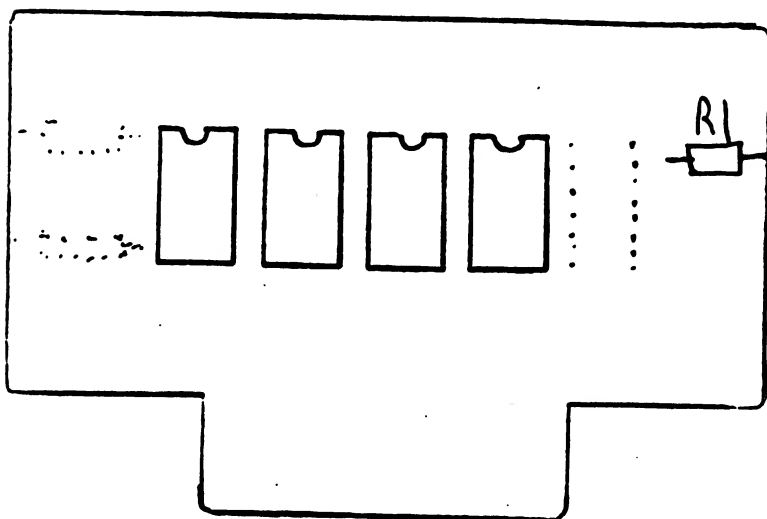

FIG. 4
- 5)NOW INSTALL THE SOCKETS IN THE FIRST FOUR LOCATIONS NOTING THE POSITION OF THE NOTCH AS IN FIG.4.